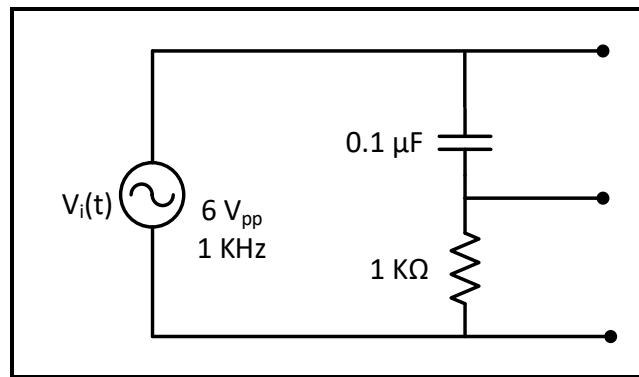

Figure 9.14
2. Connect the circuit of Figure 9.14, set V_{in} to sinusoidal voltage at $6 V_{pp}$, $f = 1 \text{ kHz}$.